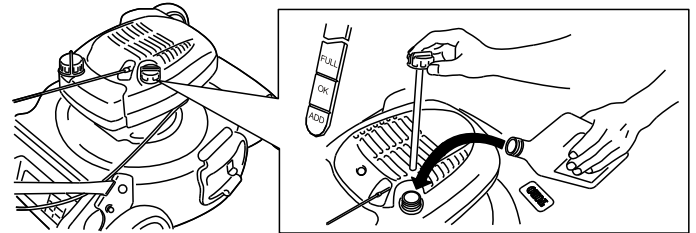

Figure 12
1. Remove the dipstick, wipe it clean, and fully install the dipstick (Figure 12).
2. Remove the dipstick and check the oil level (Figure 12). If the oil level is below the **Add** mark on the dipstick, **slowly** pour oil into the oil fill tube to raise the oil level to the **Full** mark on the dipstick. **Do not overfill.** (Max. fill: 20 oz., type: SAE 30W detergent oil with an API service classification of SF, SG, SH, SJ, SL, or higher.)